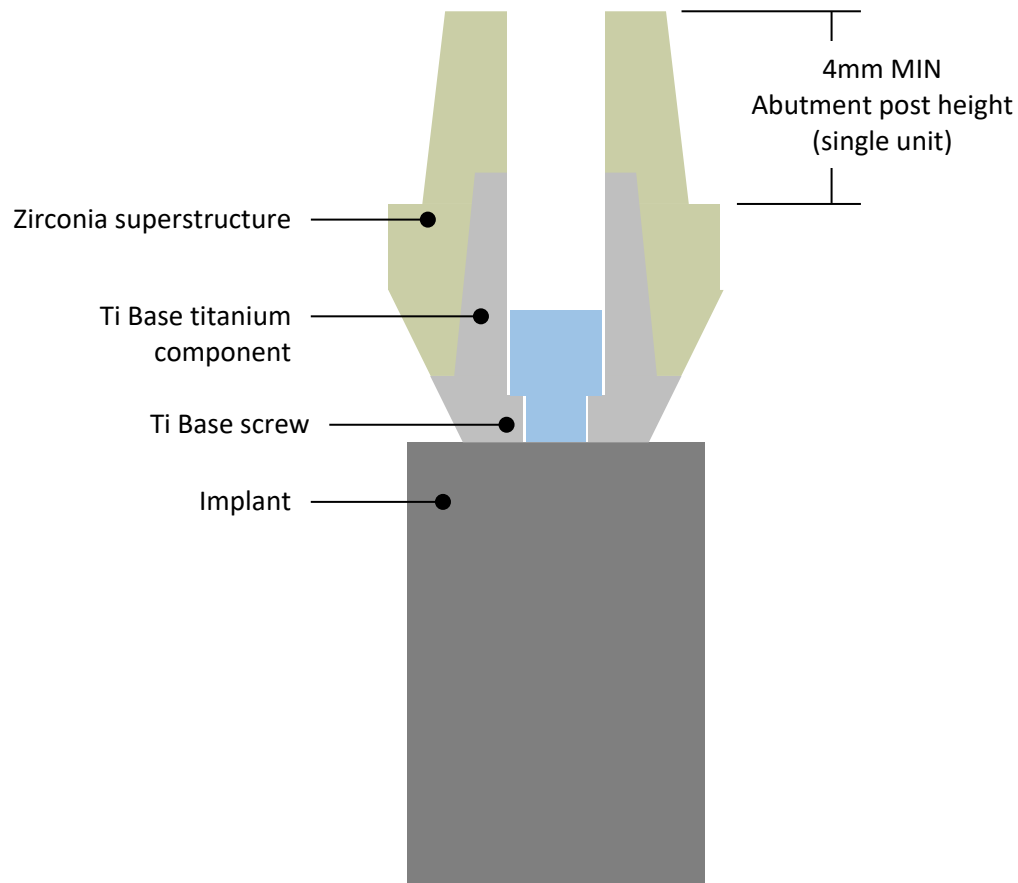

Figure 1 – Zirconia superstructure design limitations.
- Abutment post height ≥4.0 mm (refer to **Figure 1**)